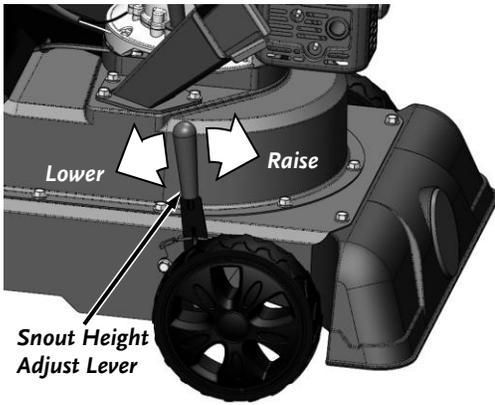

Figure 26
1. **To raise the Snout:** Pull the Height Adjust Handle out of the slot and move it forward to the next desired slot (**Figure 26**).